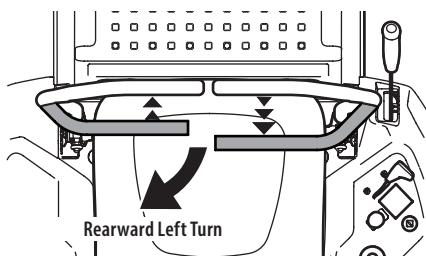

Figure 26
- To turn to the left while traveling in reverse, move the left drive control lever forward of the right drive control lever (Figure 26).